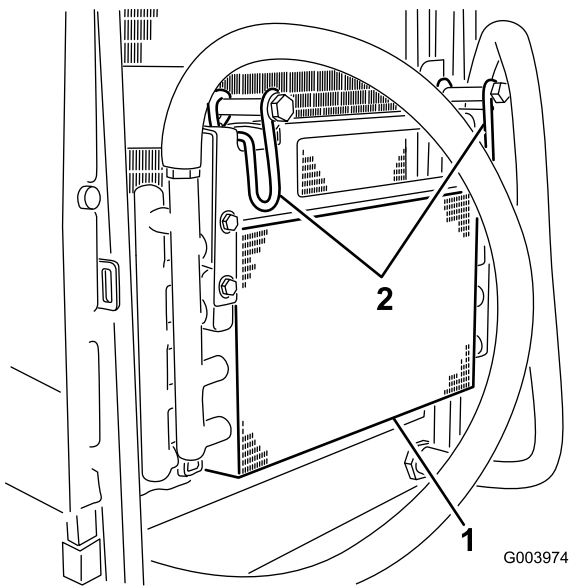

**Figure 59**
6. Thoroughly clean both sides of the oil cooler and the radiator (Figure 59) with compressed air.